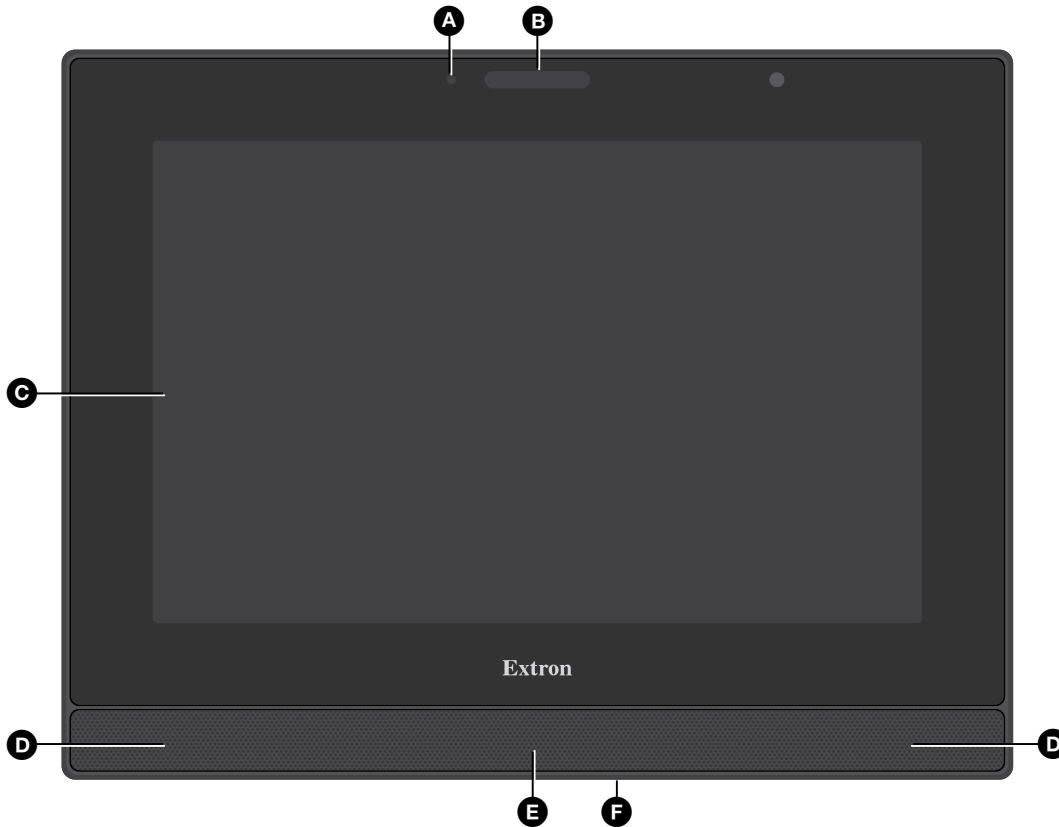
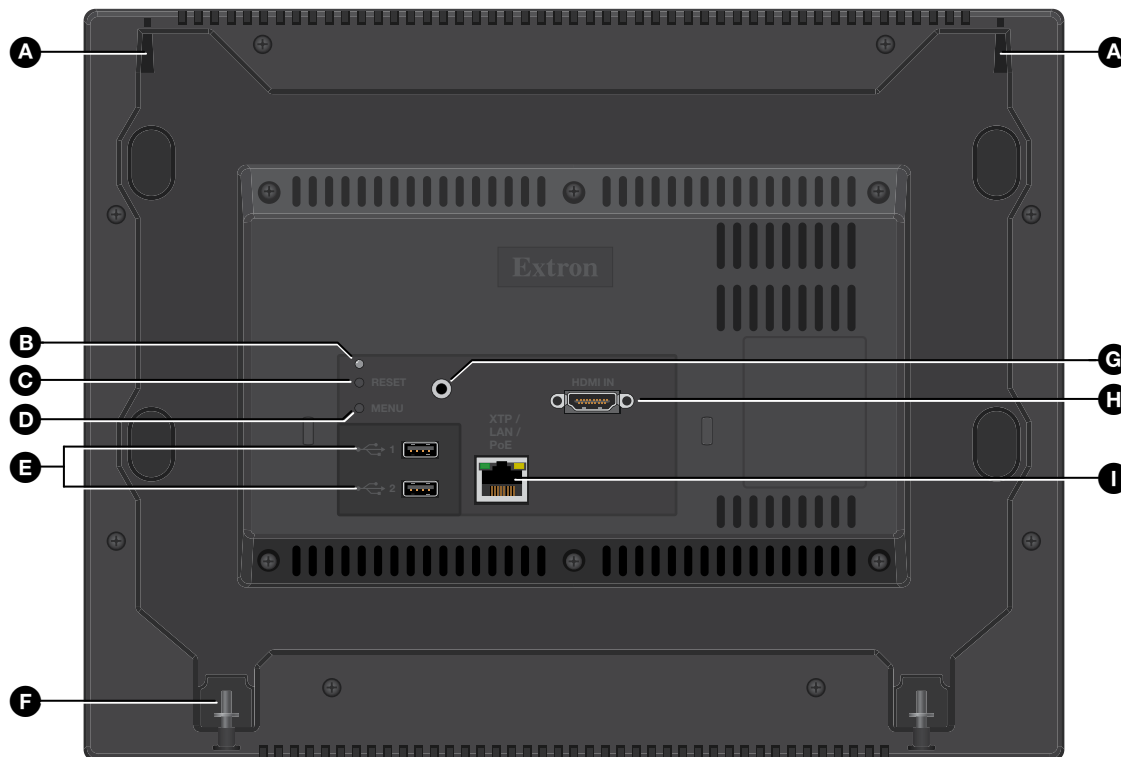

Figure 2. TLP Pro 1225MG Front Panel
Figure 3. TLP Pro 1225MG Rear Panel
Figure 2 shows the TLP Pro 1225MG front panel. The TLP Pro 1525MG and TLP Pro 1725MG features are very similar.
Figure 2 shows the TLP Pro 1225MG rear panel. The TLP Pro 1525MG and TLP Pro 1725MG features are very similar.
2. Connect a second straight-through cable (❷) from the power injector to the TLP Pro touchpanel XTP/LAN/PoE connector (see figure 3, ❶, on page 4). This cable carries the network information and 48 VDC from the power injector to the touchpanel.
- **Use factory firmware:** Use this mode to replace firmware in the event of firmware failure. Press and hold the **Reset** button (see figure 3, ❸) while applying power to the unit.
- **Reset All IP Settings:** Use this mode to reset all network settings without affecting user-loaded files. Press and hold the **Reset** button for 6 seconds. After the Reset LED (❷) flashes twice, release and momentarily press the **Reset** button.
Press the **Menu** button (figure 2, **F** on page 3 or figure 3, **D**, on page 4) to open the setup menu. Select any of the six available screens (**Status**, **Network**, **Display**, **Audio**, **Input** and **Advanced**) by tapping the appropriate button in the navigation bar at the top of the screen (for more information, see the *TLP Pro 1225, 1525, and 1725 Series User Guide*).